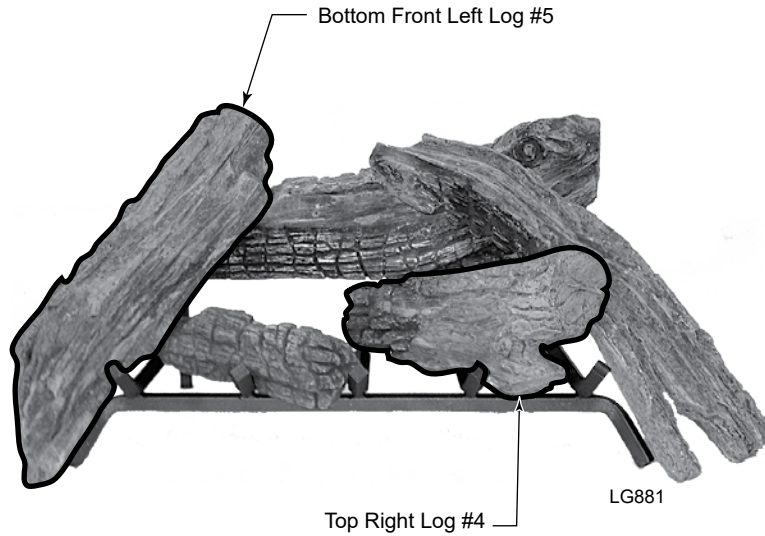

**Figure 63 -
2. Place Back Log #1 on back of grate. *Figure 63*